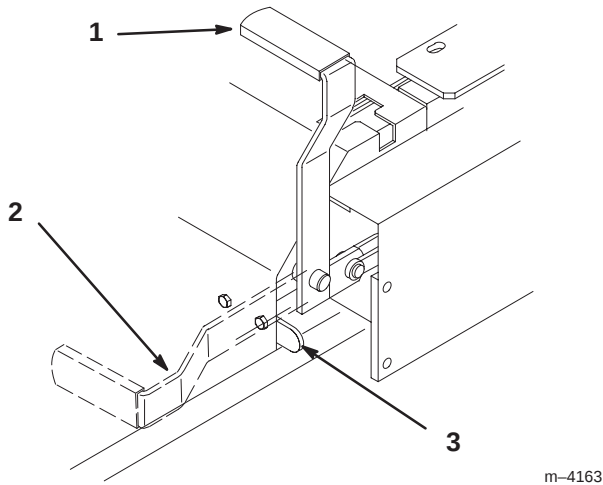

Figure 14
2. Pull back and up on the parking brake lever to set the parking brake (Fig. 14). The parking brake lever should stay firmly in the “ENGAGED” position.
1. Push forward and down on the parking brake lever to release the parking brake (Fig. 14). The parking brake is “DISENGAGED” and the lever rests against the brake stop.